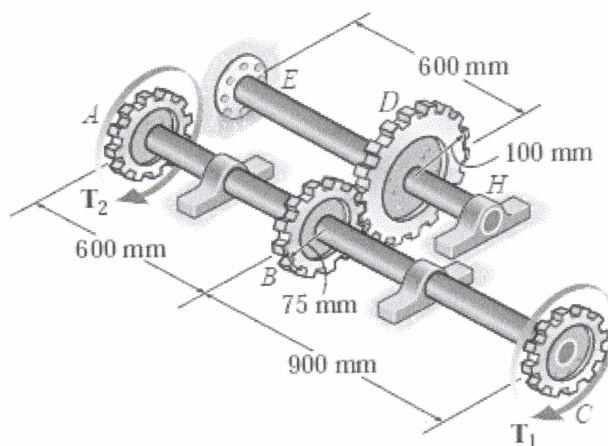

Figure Q5
- Q5.** The 60-mm diameter shaft *ABC* shown in **Figure Q5** is supported by two journal bearings, while the 80-mm diameter shaft *EH* is fixed at *E* and supported by a journal bearing at *H*. If $T_1 = 4\text{ kNm}$ and $T_2 = 6\text{ kNm}$, determine the angle of twist of gears *A* and *C*. The shafts are made of A-36 steel. Given $G_{\text{steel}} = 75\text{ GPa}$. (25 marks)